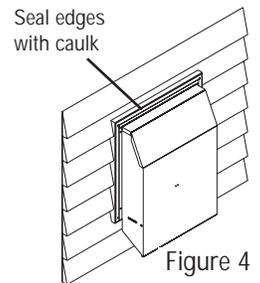

Figure 4
8. Install 1" x 2" casing strips for support on edges of the 14 -1/2" square hole. These casing strips are to be secured to plywood sheathing via screws or nails. If sheathing is not plywood you will have to add support. (fig 4)